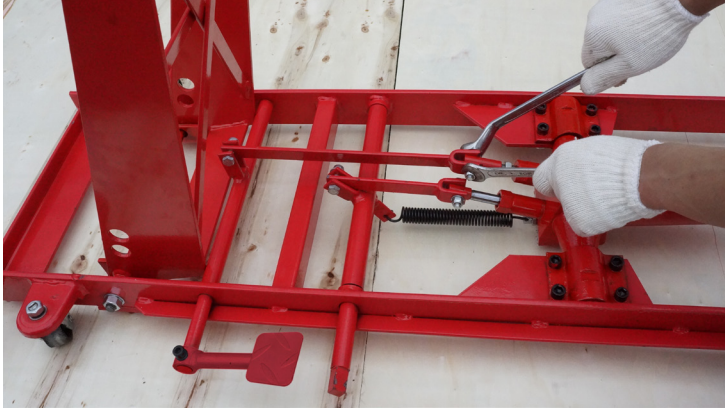

Fig. 6
5. Connect the Short Link (20) onto pump rod and Pump Piston Spindle (16), and tighten the Bolt (30), Washer (12) and Lock Nut (32).
Connect the Long Link (31) onto release rod and Release Valve Spindle (14), and tighten the Bolt (30), Washer (12) and Lock Nut (32). (Fig.6)